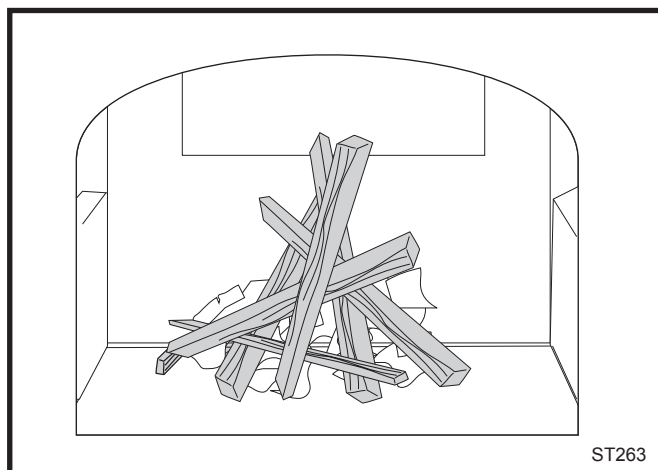

Fig. 22 Start the fire with newspaper and dry kindling.
2. Place several sheets of crumpled newspaper in the stove. Do NOT use glossy advertisements or colored paper, as they can poison the catalyst. Place on the paper six or eight pieces of dry kindling split to a finger-width size, and on the kindling lay two or three larger sticks of split dry wood approximately 25-51 mm (1-2") in diameter. (Fig. 22)